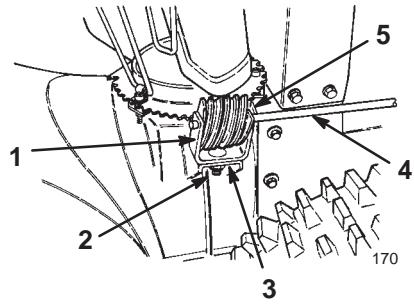

Figure 8
1. Insert the one-inch (2.5 centimeters) carriage bolt into the mounting hole of the gear bracket (Fig. 8).
2. Position the worm gear into the bracket, align the holes, and insert the chute gear rod through the bracket and the gear (Fig. 8).
3. Loosely mount the worm gear and the bracket to the mounting flange with a carriage bolt, a flat washer, and a locknut (Fig. 8).